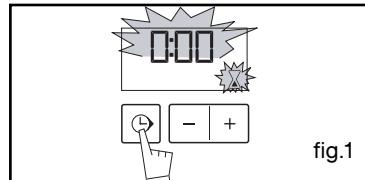

fig.1
- Press the “” TOUCH CONTROL (fig.1) until the timer symbol begins flashing